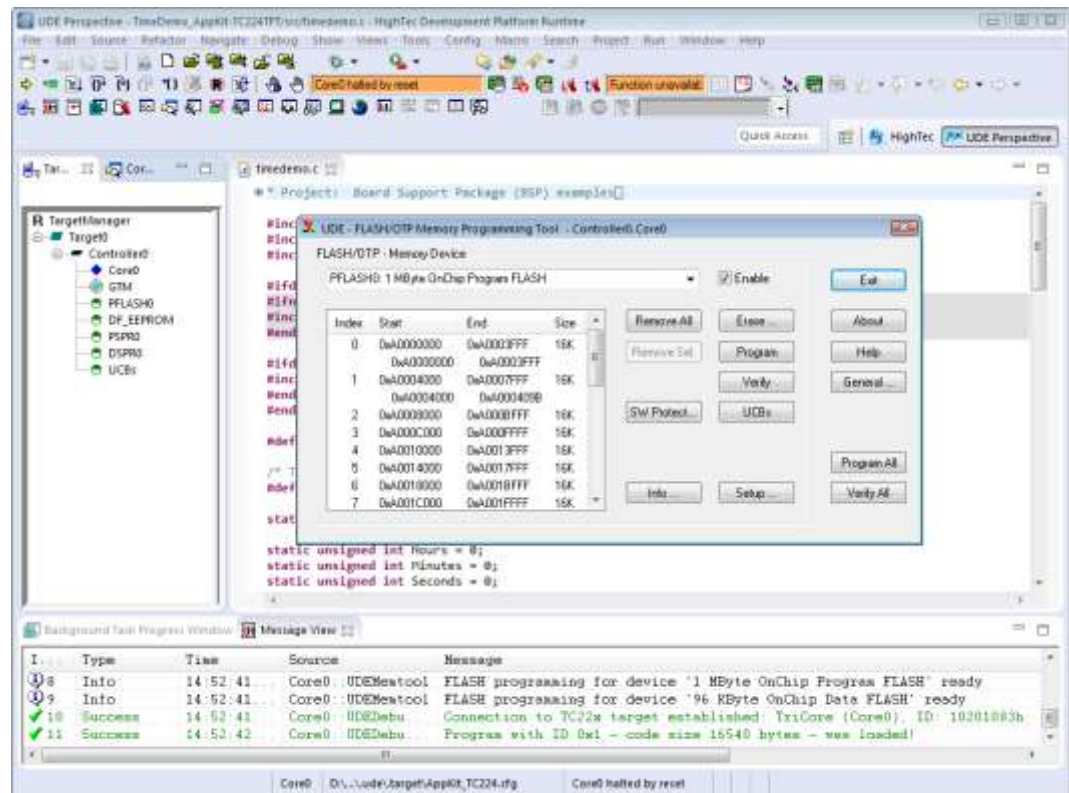

Figure 31 UDE Memory Programming Tool
4. A new debug configuration **TimeDemo_AppKit_TC224TFT iROM** is created. All input fields are pre-filled with appropriate values (Figure 31).
6. If you built an **iROM** version of your application, the **UDE Memory Programming Tool** will appear after launching the **UDE perspective** (Figure 31).